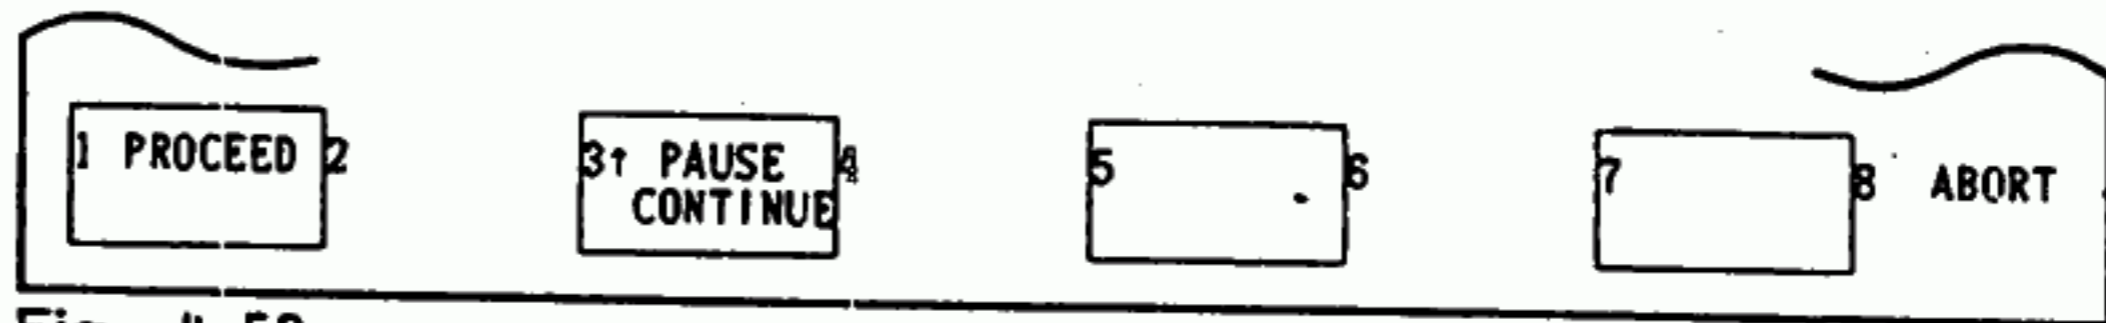

Fig. 4.58
5. When miscomparison other than the one listed in 4 above, are found during the verifying process, the label shown in Fig. 4.58 is displayed.